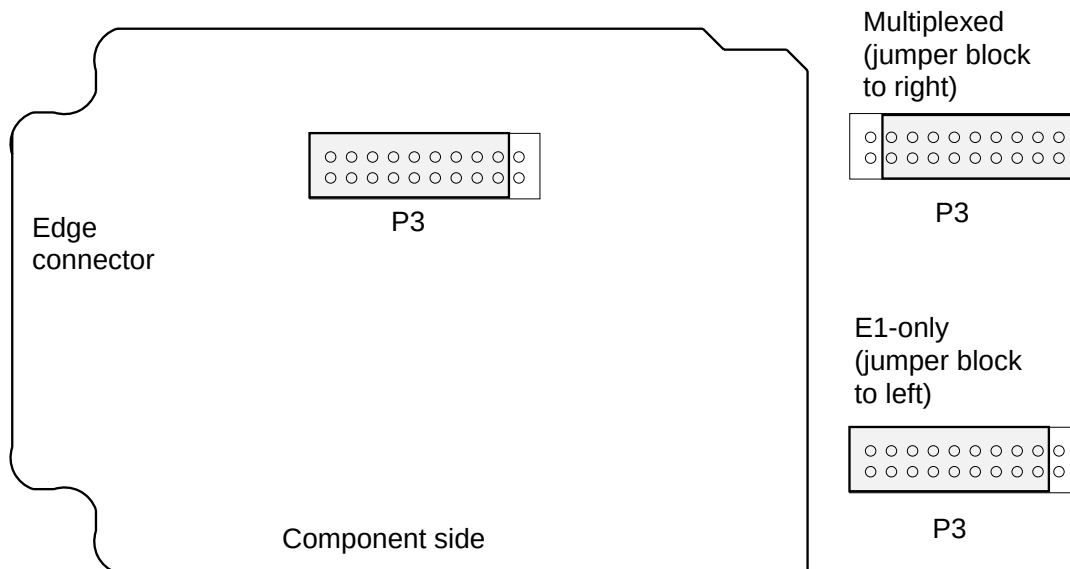

Figure 1. BBG10 OHCTL Option Settings
2. Set orderwire option jumper on **BBG10** plug **P3** for type of orderwire interface required (Multiplexed or E1-only). See Figure 1.